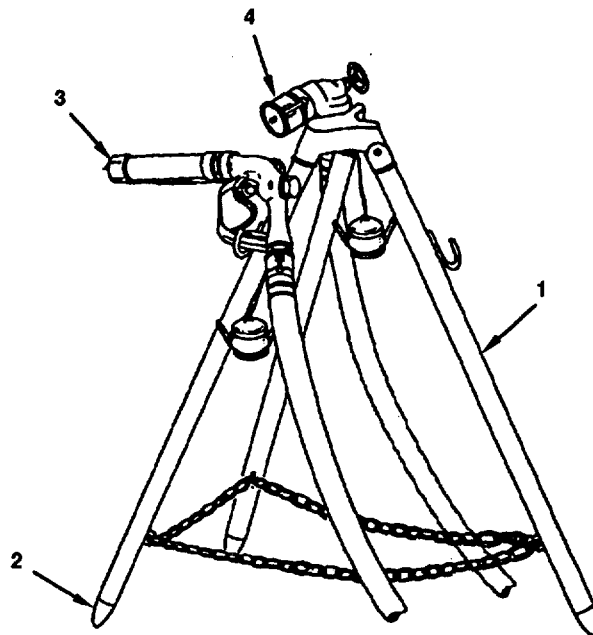

Figure 2-27. Tripod Stand Assembly.
ba. Install two nozzle stand assemblies (Figure 2-27, 1). Spread three tripod legs (2) and secure legs with rocks or embed pointed ends in ground. Locate nozzle stand assemblies (1) at convenient spots for hanging distribution point nozzles (3) and elbow valves (4).